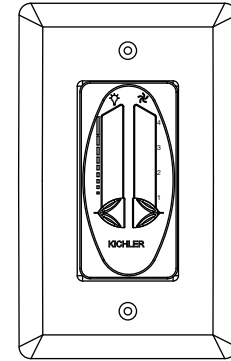

Fig. 24
1. Fan Control: To start the fan. Slide the selected speed switch to run the fan at the desired speed:(Fig.24)
2. Light Control: Slide to turn the light on or off, and light dimming.(Fig.24)